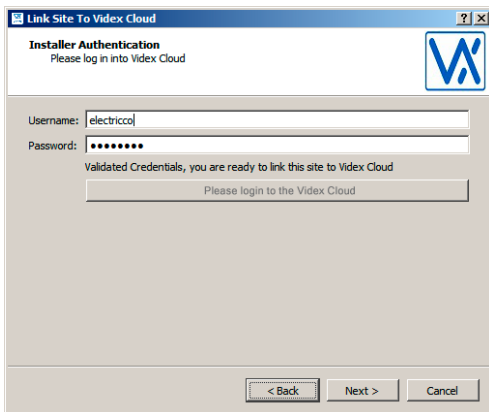

Fig. 34 Installer Authentication
- Once you receive the message "Valid Credentials..." (Fig. 34) click on the "next" button.